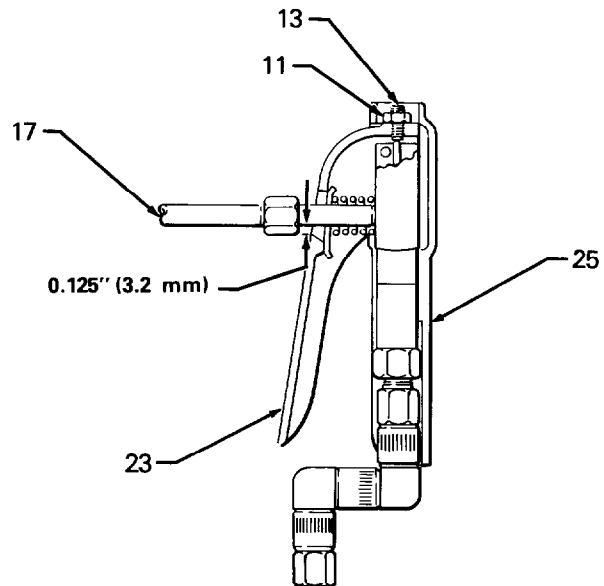

Fig 2
2. Reference numbers in parentheses in the text refer to Fig 2, and the parts drawing on page 5.
If grease continues to flow after trigger is released: valve may be out of adjustment. Follow **Pressure Relief Procedure Warning**, above. Check for minimum 0.125 in. (3.2 mm) clearance between trigger (23) and outlet adapter (17). To adjust, loosen locknut (11) and turn adjusting screw (13) in or out as needed. Then hold adjusting screw in place and securely tighten locknut. See Fig 2.
Use a 0.25 in. (6.4 mm) dia. rod to position back-up and o-ring, one at a time, all the way up into cavity. Install ball. Replace adjusting screw. Insert valve stem. Continue reassembling. Adjust trigger clearance. See Fig 2.